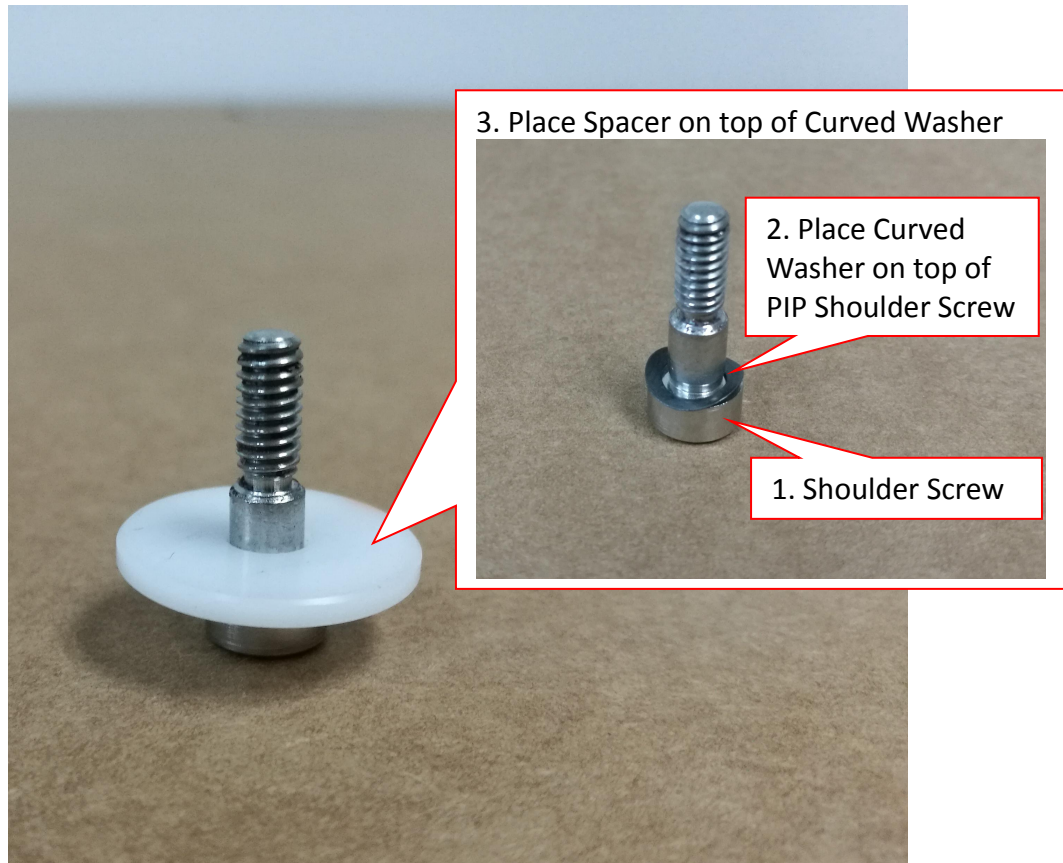

Figure 7 PIP Shoulder Screw Assembly
3. Arrange below fastening by refer below sequence. May refer to Figure 7.